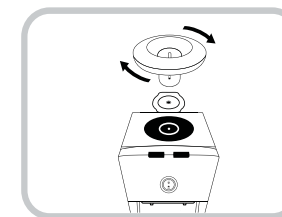

Fig.1
2. Remove the Funnel by turning it clockwise or counter-clockwise depending on the model. Make sure the Hot Water Funnel (semi-transparent plastic piece) is firmly sitting on the metal prong of the tank. (Fig.1).